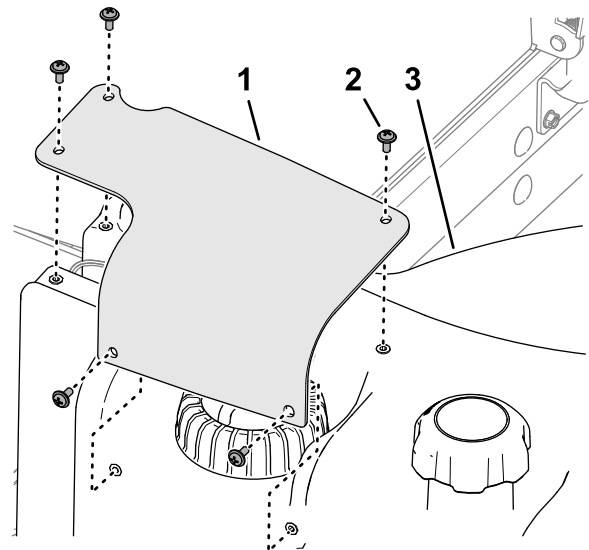

Figure 118
2. Remove the 5 Phillips-head screws that secure the fuel-sender cover to the fuel tank, and remove the cover (Figure 118).